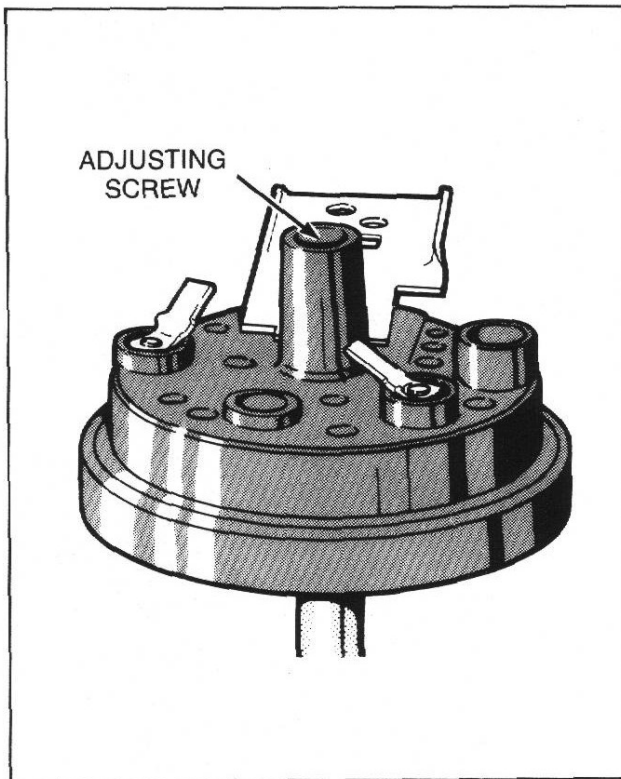

Figure 45
- Remove sealer from around pressure switch adjusting screw, *Figure 45*.
- Turn adjusting screw, *Figure 45*, clockwise to increase water level in clothes cylinder, or counterclockwise to decrease water level.